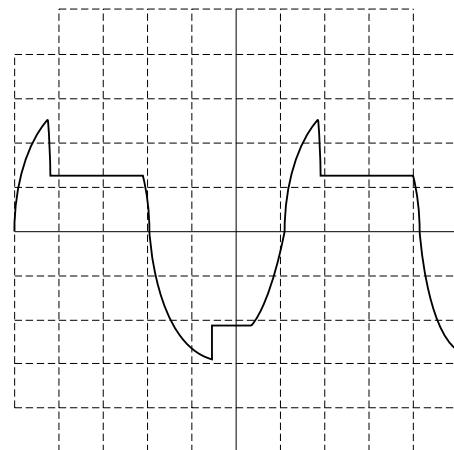

Figure 4.4 ODEP limiting wave form
**Procedure:** Load the amplifier to 2 ohms on each channel. Inject a 60 Hz sine wave and adjust for 30 Vrms at the output. After a few minutes observe a wave form similar to Figure 4.4. Both positive and negative alternations must show the distinctive waveform. There is no requirement of symmetry between positive and negative alternations. There is no requirement of uniformity from channel to channel. Remove the input signal from both channels and allow the amplifier to cool for a few minutes. Switch the amplifier to Parallel Mono and remove the load from Channel 1. Inject the signal into Channel 1 and observe that ODEP limiting occurs at the output of both channels. Remove the load from Channel 2, and install the load on Channel 1. Again, observe that both channels limit. Return all amplifier controls to standard initial conditions. Remove the fan obstruction.